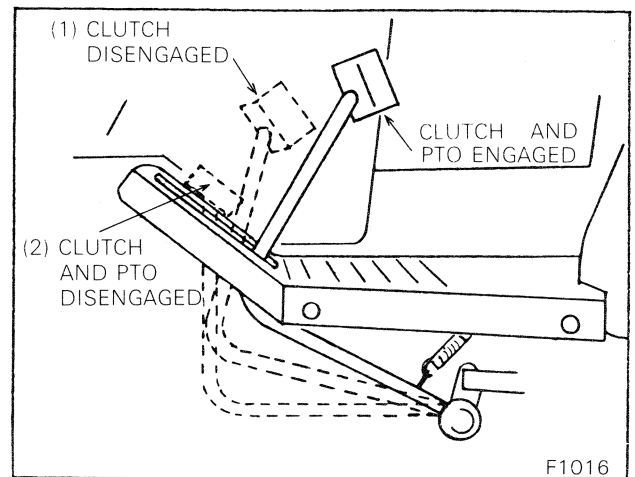

Figure 14 — Dual Clutch (Optional)
When the clutch pedal is depressed to position (1), Figure 14, the tractor movement stops while the P.T.O. shaft continues rotation (if the P.T.O. is engaged). If the pedal is depressed completely (2), both tractor and P.T.O. motion stop.